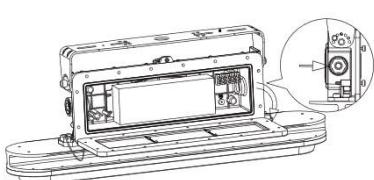

Figure 0-2
5. Unscrew the 3/4" NPT nut. Install the conduit to the conduit opening and pull the wire through the conduit hole (Figure 0-2), and connect to the 5PIN terminal block. See label at the terminal block for wiring.